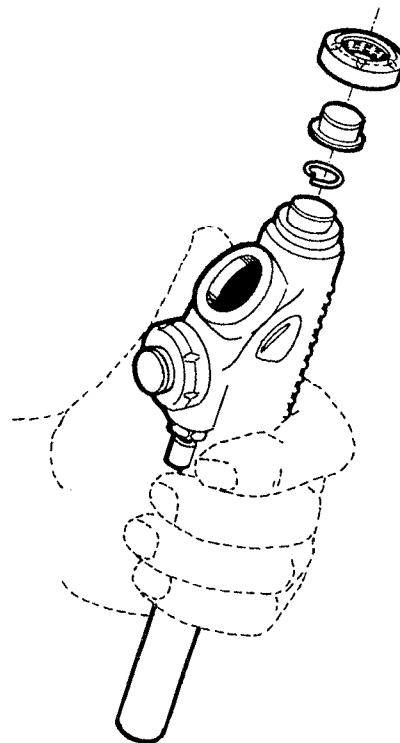

FIG. 6
5. Place the O-Ring (55) into the exhaust button seat (118).
6. Keeping special tool into the inflator body (46), position the exhaust button (118), the spring (127), the button protection (117) and screw locking ring in (116) (Fig. 6).